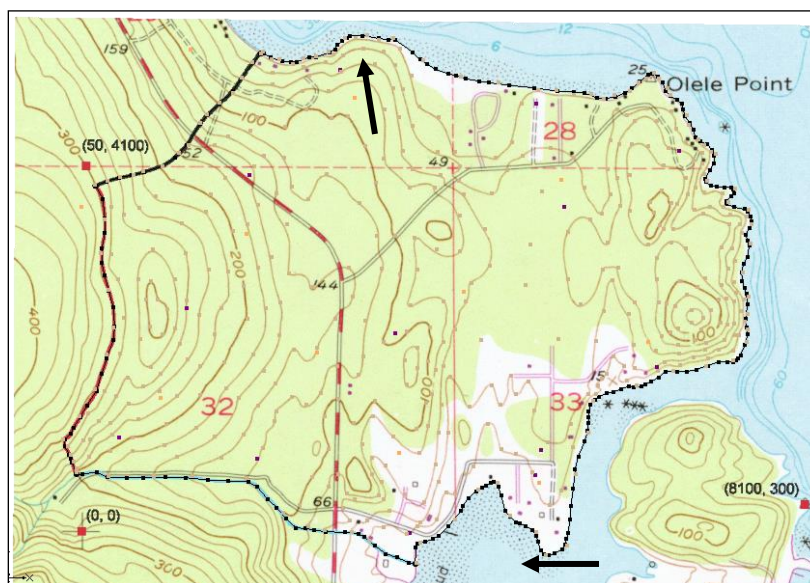

Figure 2 Coastline boundary arc
- Create an arc for the coastline boundary (between the arrows in Figure 2).